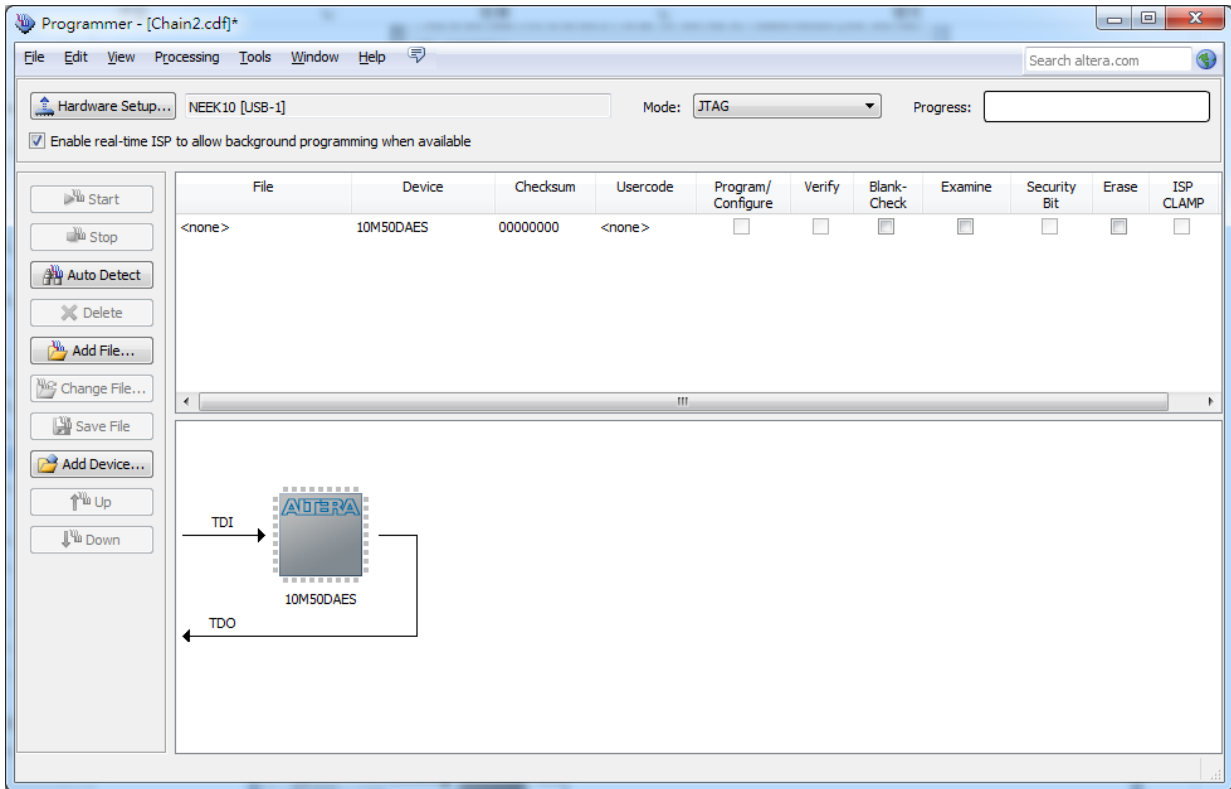

Figure 3-4 FPGA Detected in Quartus Programmer
3. FPGA is detected, as shown in **Figure 3-4**.